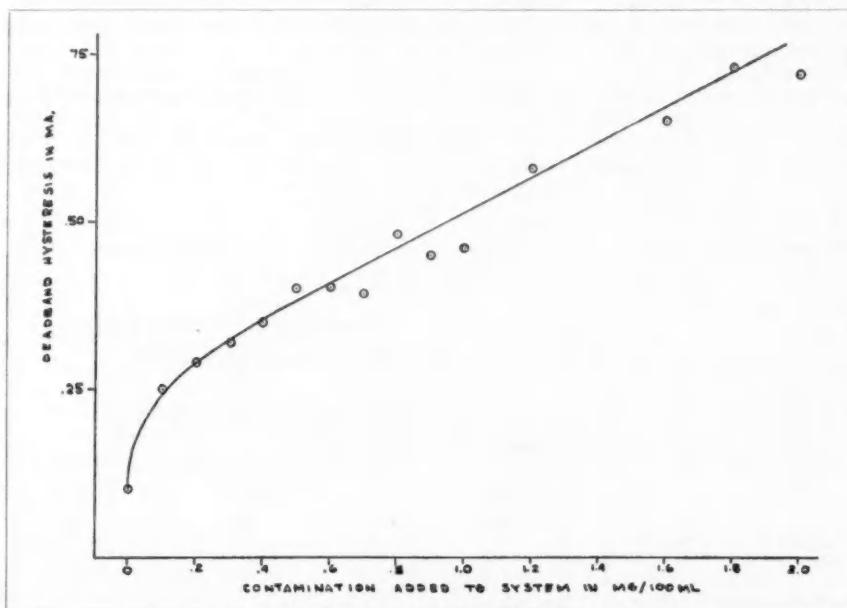

Fig. 4—Calibration curve of servo-valve contamination meter.
3. *Calibration Test Results*—The hysteresis in the null or deadband region of the valve was noted for each addition of artificial contaminant and shown in Fig. 4. The initial cleanliness of the fluid in the calibration test system is not known before contamination is added; therefore, the value of hysteresis in theoretically clean fluid must be placed on the curve with respect to the added contaminant. (Theoretically clean fluid is defined as a particular fluid condition with respect to contamination that has no observable effect on servo-valve performance.) The curve of Fig. 4 may be adjusted for the theoretically clean fluid in the following manner:
(1) Determine the amount of inherent hysteresis in the valve apart from contamination effects on the slide and sleeve. This may be accomplished by conducting a number of deadband hysteresis tests in a hydraulic system to which contamination has not been added and that has been filtered for extensive periods of time with effective filters. These tests should be conducted with the return pressure orifice removed from the valve (maximum slide positioning pressure per unit input current).
(2) Extrapolate the calibration curve of Fig. 4 at the lower end down to the value of deadband hysteresis equal to that in the clean fluid tests.
(3) Adjust the calibration curve so that the point of theoretically clean fluid corresponds to zero contamination added.
The amount of artificial contaminant that a normal system valve can tolerate can be noted from Fig. 4. It is based on deadband hysteresis limits established by the servo system design and performance requirements. At this level of contaminant the servo-valve contamination meter reading can be noted that will represent servo-valve failure level. Because of the erratic nature of contamination and the possibility of rapid increases, a safe operating level should be established at a value well below the failure level. A suggested safe operating level would be the level of contaminant that causes the servo-valve contamination meter to exceed the performance requirements for the system.
The calibration curve of Fig. 4 is based on a particular known size, material, shape, and weight of contamination, while that in a system would probably be different under various operating conditions. Since the servo-valve contamination meter is sensitive to contamination in the same manner as the valves in the system and a correlation between them has been noted from Fig. 4, the meter measurement is seen to be independent of the type of contaminant. The meter will measure effects of contamination, which is of prime importance with respect to system performance.